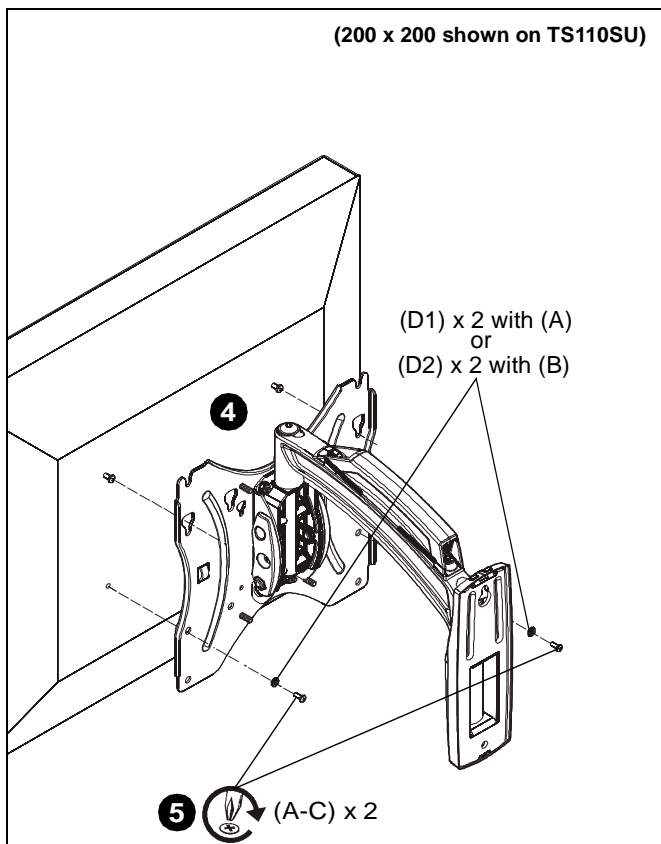

Figure 8
4. Hang display by two screws onto faceplate through either inner or outer teardrop mounting holes. (200x200 mounting pattern shown) (See Figure 8)
5. Install two selected screws (A-C) through selected washer hardware (D1 or D2 if necessary), lower holes on faceplate and into lower two holes on display. (See Figure 8)